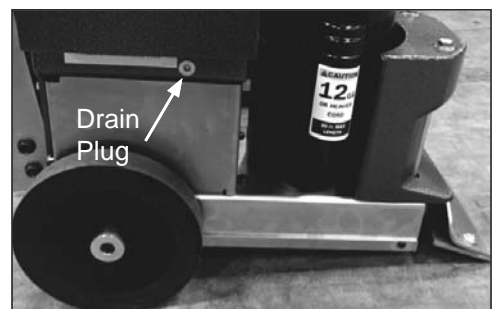

FIG. 11
- **To change fluid**, remove filler port cap. Remove drain plug from side of machine (Figure 11). An 8 liter container will be needed to drain fluid into (fluid will not be removed from hoses).